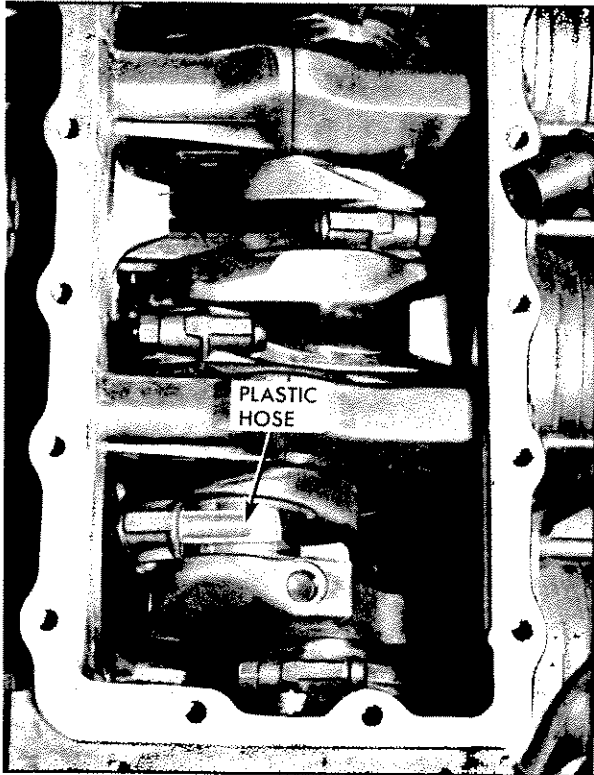

Fig. 39—Connecting Rod Bearing Replacement
4. Install a piece of 5/16" I.D. plastic or rubber hose on connecting rod bolt, to protect crankshaft journals, (fig. 39).